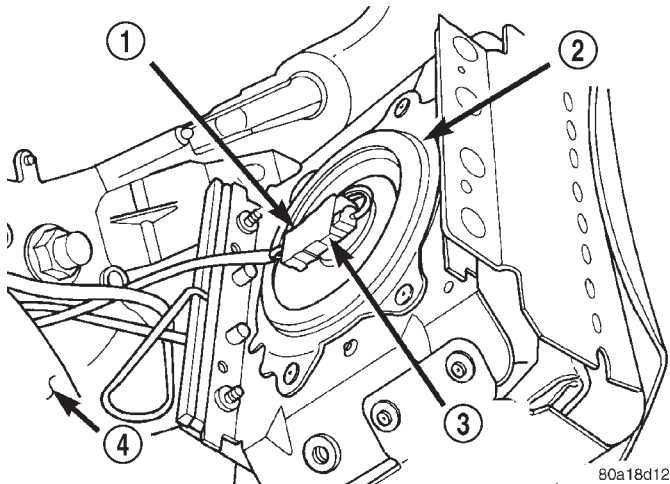

Fig. 12 Airbag Module Electrical Lead Locking Tab
(12) Remove the airbag module from the center of the steering wheel.
(13) Remove the locking tab from clockspring airbag electrical lead connector (Fig. 12). Locking tab is removed by pulling it straight out of the airbag connector. **Do not twist the locking tab when removing it from the connector.**